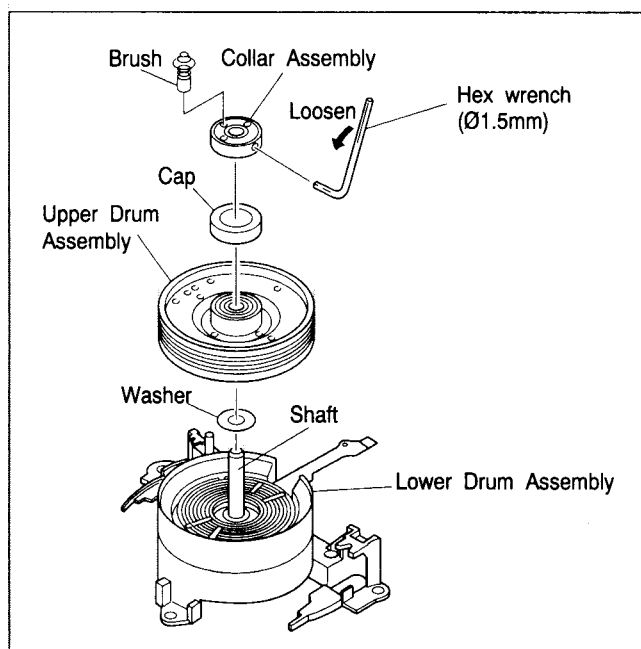

Fig. 2-5-25
- (1) Use an air brush to clean the lower drum assembly and the coil section of the new upper drum assembly.
- (2) Set a new washer on the drum shaft as indicated in Fig.2-5-25.